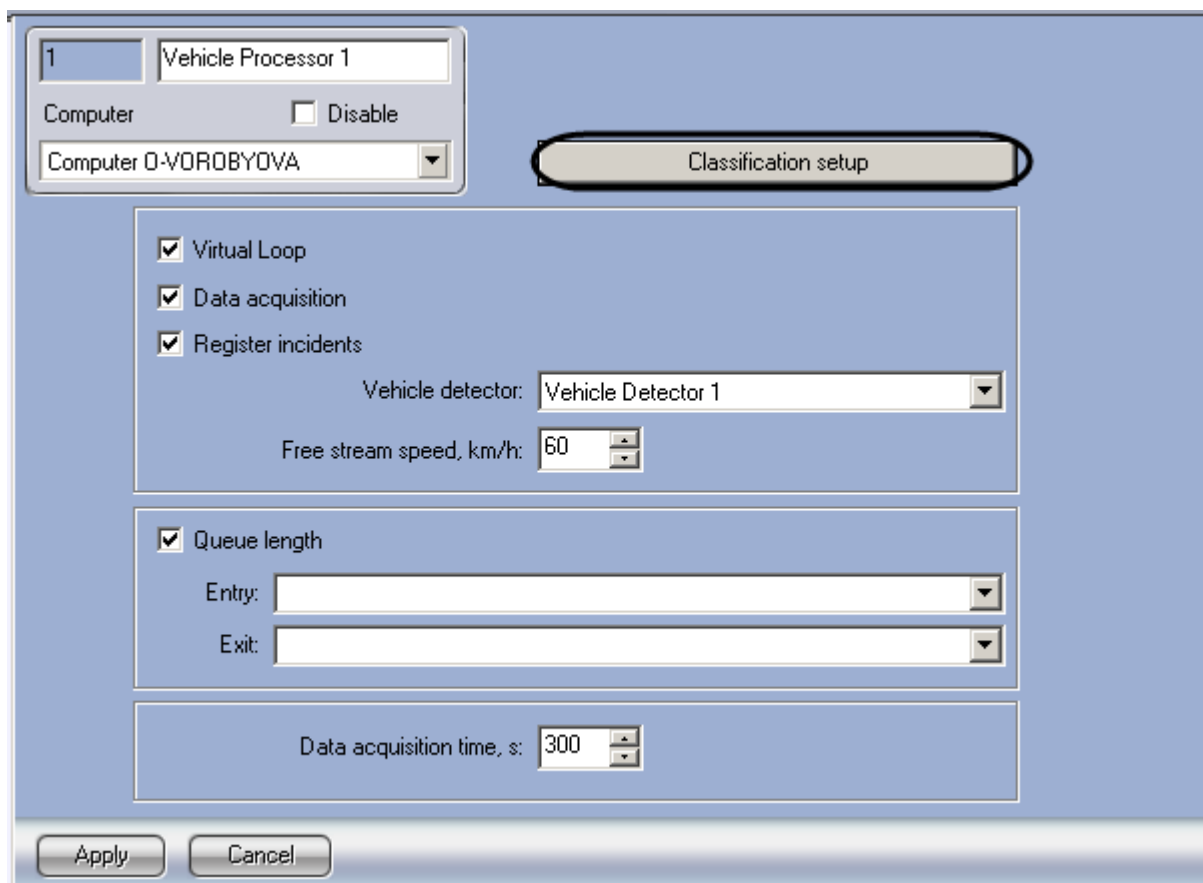

Fig. 7.7—12 Access to Classification settings
1. Go to the Vehicle processor settings panel (Fig. 7.7—12).
2. Click the «Clarify settings» button (Fig. 7.7—12).